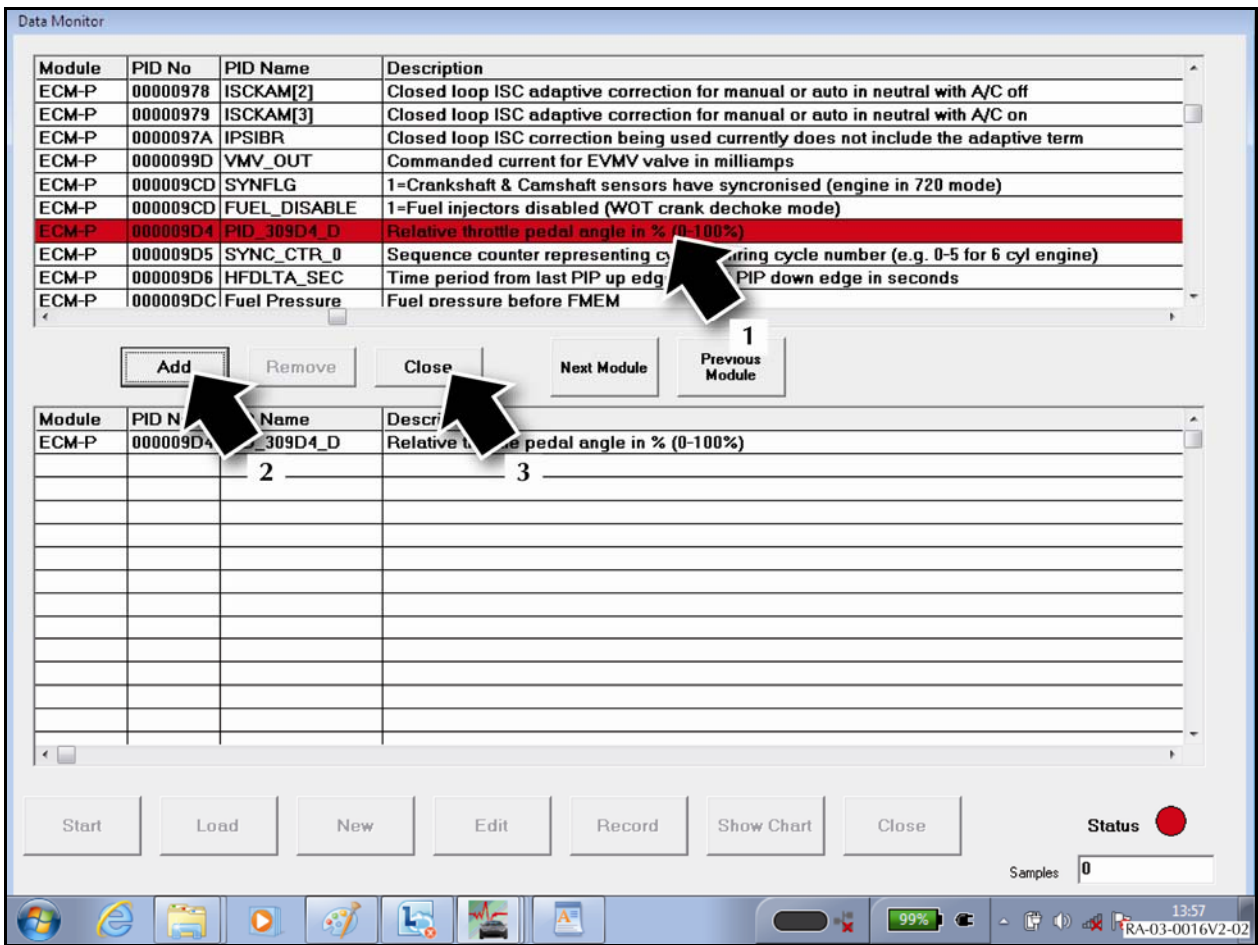

Figure 1
8. Go to data monitor on AMDS and select PID_309D4: "Relative throttle pedal angle in % (0-100%)" (1) (refer to Figure 1). The PID will be added to the bottom table.
9. Click on "Add" (2).
10. Click on "Close" (3).